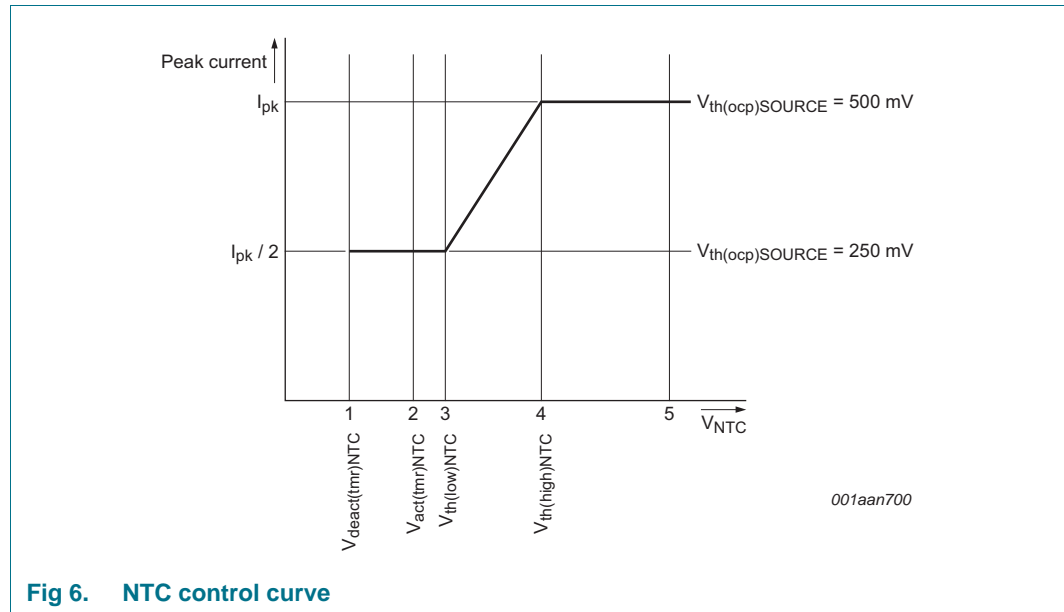

Fig 6. NTC control curve
The NTC pin can be used as a control method for LED thermal protection. Alternatively, the pin can be used as an input to disable/enable light output using a digital signal (PWM dimming). The pin has an internal current source that generates the current of  $I_{offset(NTC)}$ . An NTC resistor to monitor the LED temperature can be directly connected to the NTC pin. Depending on the resistance value and the corresponding voltage on the NTC pin, the converter reacts as shown in Figure 6.
When the voltage on the NTC pin exceeds  $V_{th(high)NTC}$  (see Figure 6 (4)), the converter delivers nominal output current. When the voltage is lower than this level, the peak current is gradually reduced until  $V_{th(low)NTC}$  is reached (see Figure 6 (3)). The peak current is now half the peak current of nominal operation. When  $V_{act(tmr)NTC}$  is passed (see Figure 6 (2)) a timer starts to run to distinguish between the following situations:
- If the low-level  $V_{deact(tmr)NTC}$  is not reached within time  $t_{to(deact)NTC}$  (see Figure 6 (1)) LED overtemperature is detected. The IC stops switching and attempts to restart from the HV pin voltage. The converter restarts from an NTC protection shutdown when the voltage on the NTC pin exceeds  $V_{th(high)NTC}$  (see Figure 6 (4)). It is assumed that the reduction in peak current does not result in a lower NTC temperature and LED OTP is activated.
- If the low-level  $V_{deact(tmr)NTC}$  is reached within the time  $t_{to(deact)NTC}$  (see Figure 6 (1)) it is assumed that the pin is pulled down externally. The restart function is not triggered. Instead, the output current is reduced to zero. PWM dimming can be implemented this way. The output current rises again when the voltage is higher than  $V_{th(low)NTC}$ .
The NTC pin can be used to make a soft start function. During switch-on, the level on the NTC pin is low. By connecting a capacitor (in parallel with the NTC resistor), a time constant can be defined. The time constant causes the level on the NTC pin to increase slowly. When passing level  $V_{th(low)NTC}$  (see Figure 6 (3)), the convertor starts with half of the maximum current. The output current slowly increases to maximum when  $V_{th(high)NTC}$  (see Figure 6 (4)) is reached.